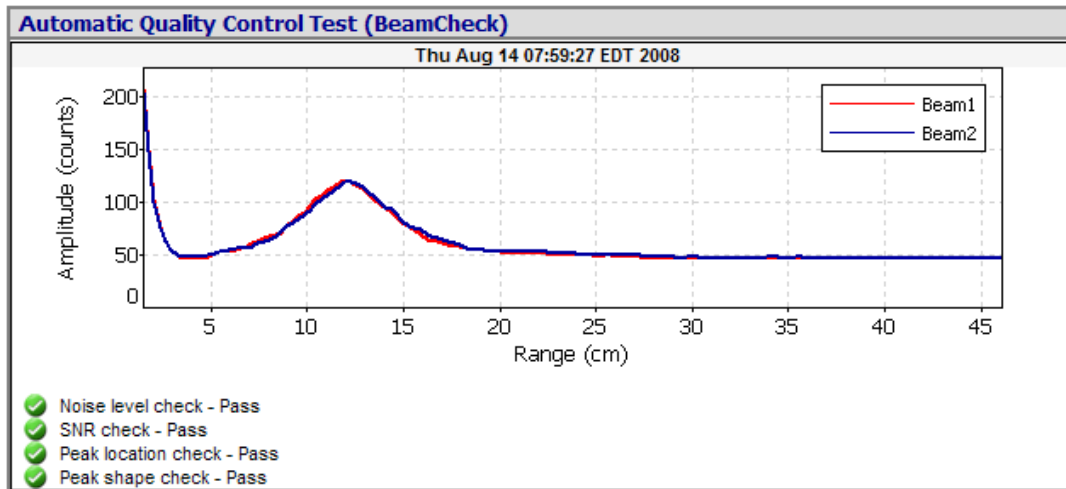

Figure 1.--Results of a QCTest from the Discharge Measurement Summary created by the FlowTracker ADV software.
- A QCTest must be performed and stored with each measurement. When a QCTest is completed as part of a measurement it is included in the measurement summary (Figure 1).
- A BeamCheck must be performed in a bucket of water (OSW Technical Memorandum 2007.01) when (1) any possible physical damage occurs (e.g., dropping the instrument), (2) there is a firmware upgrade, and (3) any failures in the QCTest are observed that cannot be explained by improper placement or test environment. All new FlowTrackers purchased directly from SonTek/YSI¹ and/or meters sent to the Hydrologic Instrumentation Facility (HIF) Hydraulics Lab (HIF-HL) or to SonTek/YSI for repair, must pass HIF-HL's QA check² before being placed into service for the first time or back